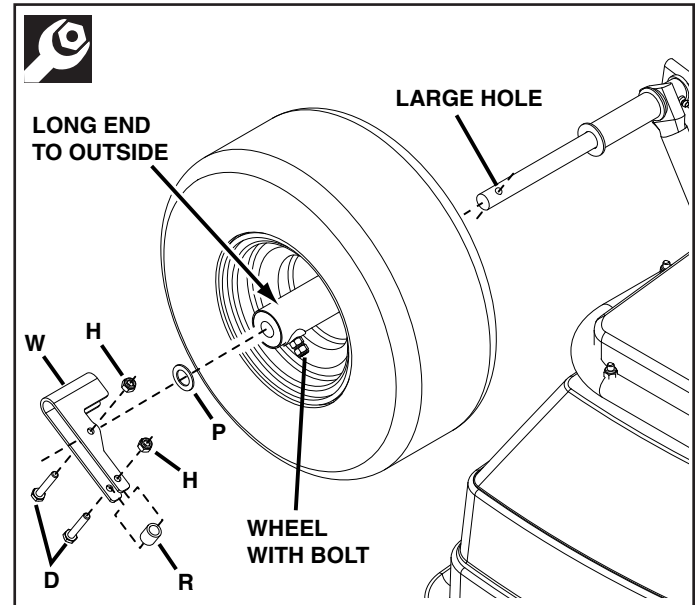

FIGURE 4
After assembling bracket (W) to axle, tighten both bolts. Loosen bolt through axle just enough that bracket (W) can pivot but will stay in place. See figure 4.